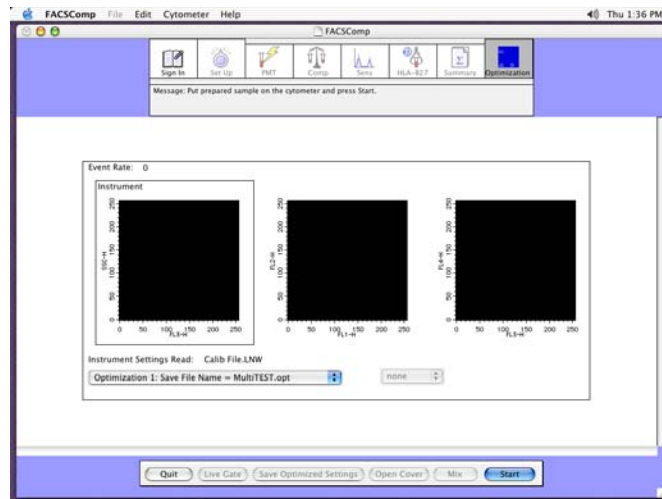

Figure 1-2 Optimization view
- 2 Verify Optimization 1: Save File Name = MultiTEST.opt is chosen from the pop-up menu. See Figure 1-2 on page 10.